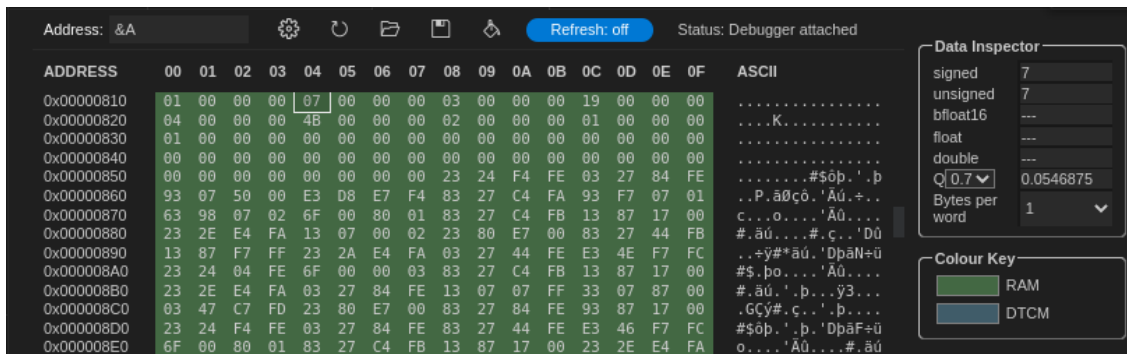

Figure 60. Memory Display for arrays A and B – Initial state.
6. Now place another breakpoint at line 18 and continue execution by clicking on  (see Figure 60). Open the Memory Display (as explained for the LedsSwitches program) and type `&A` (which means “address of A”) into the Start Address box. Select 0.5s refresh rate for the memory window, by dragging the slider. If you wish you can also drag the windows around to see both source and memory windows at the same time (see Figure 60). You can view the initial values of vector A and B.